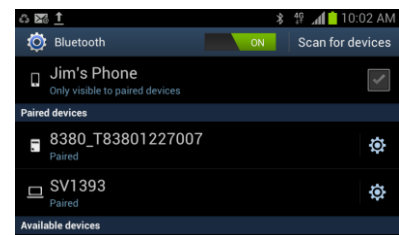

Figure 2. Scanned Devices
- e) Select the serial number of the Model 8380 on the list of devices that appears (Figure 2).